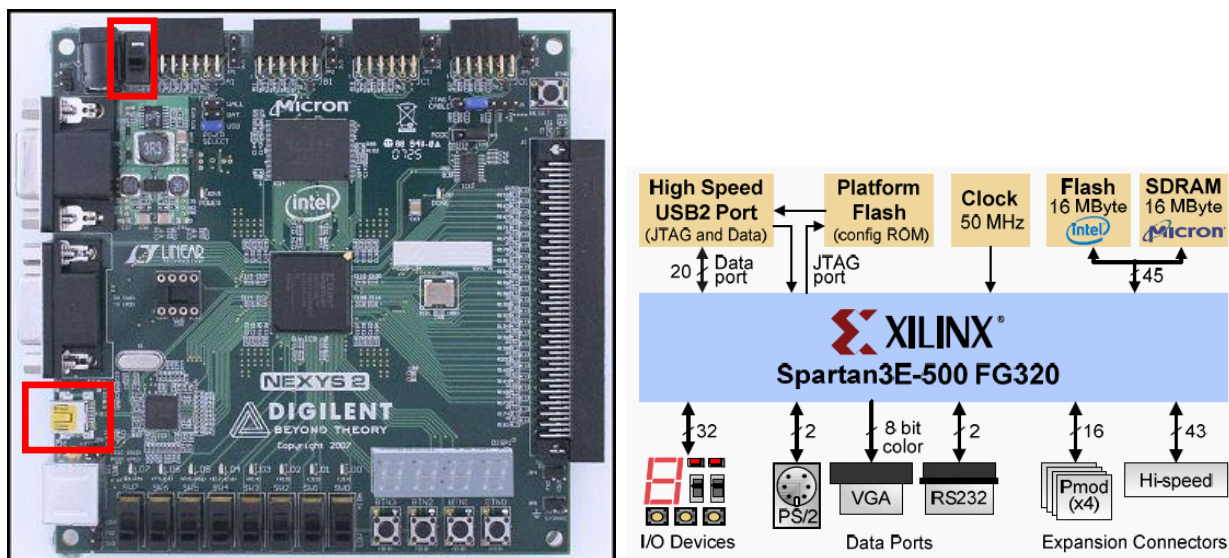

Figure 1: The Nexys2 board (left) and its component composition (right).¹
- 1) A Nexys2 circuit board itself as shown in Figure 1 below
Connect up the Nexys 2 to your PC (see red boxes in figure 1). There is no need to connect an external power supply as the board is powered via USB. At this stage, a pop-up message will likely occur to indicate you have connected new hardware, and shortly should indicate it is installing device drivers for “Digilent Onboard USB”. (If you don’t get this message, you’ll need to unplug the board, install the Digilent Adept software, reboot and try again).
If all is well, then the red power LED should light up on the board (and possibly other LEDs depending on what software if any is running on the board). If not, **MAKE SURE POWER SLIDE SWITCH IS UP** (see red boxes in figure 1).